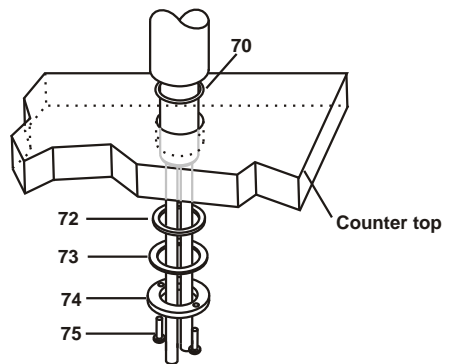

Figure 6
Attach the fitting with the washers in the correct position. (Figure 6)
1. Remove lever handle (54/104) - see Fig 6.
4. Pull cartridge (59/109) out taking care not to disturb the position of the port adapter (60) in the case of the basin fitting.